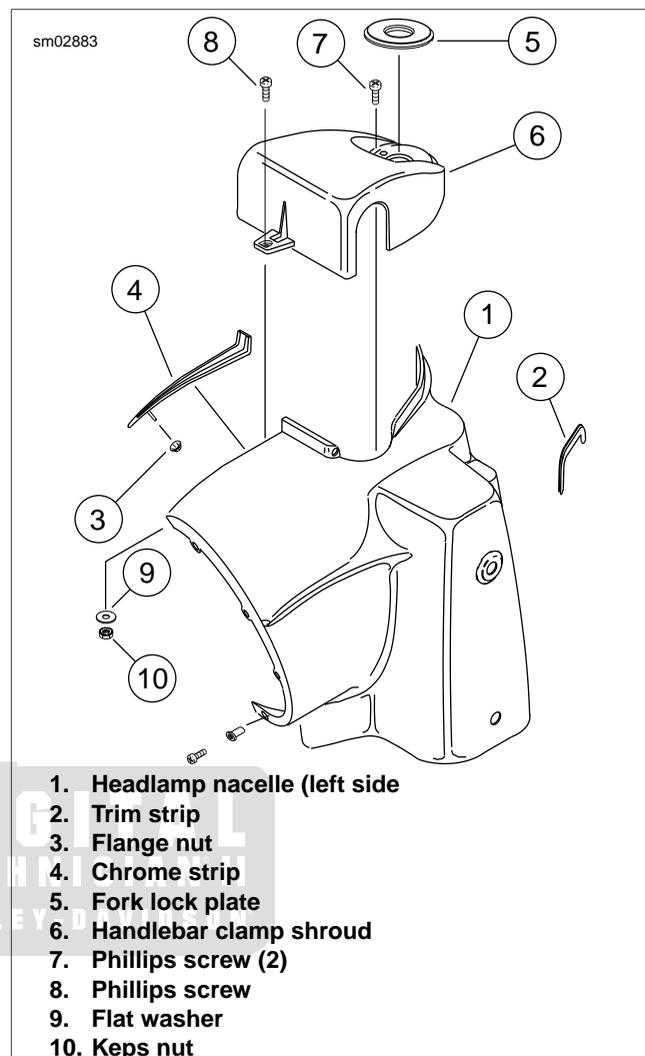

Figure 2-159. Headlamp Nacelle Assembly
5. Reaching inside the headlamp nacelle, remove the flange nut to release the chrome strip at the top of the nacelle. See Figure 2-159.